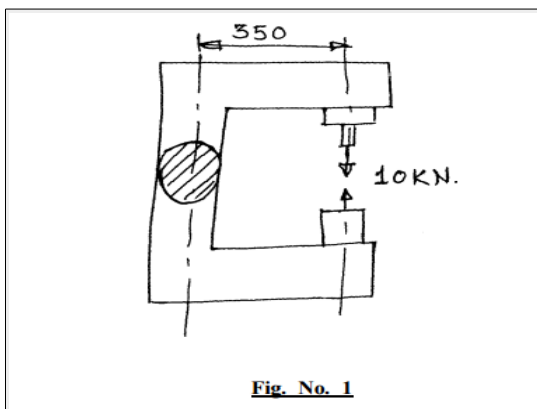

Fig. No. 1
3) The Spindle of a drilling machine as shown in figure No.1 is subjected to a maximum axial load of 10 kN during operation. Determine the diameter of the solid cast iron column if the permissible tensile stress is 40 N/mm². The distance between the axis of the spindle and the axis of the column is 350 mm.